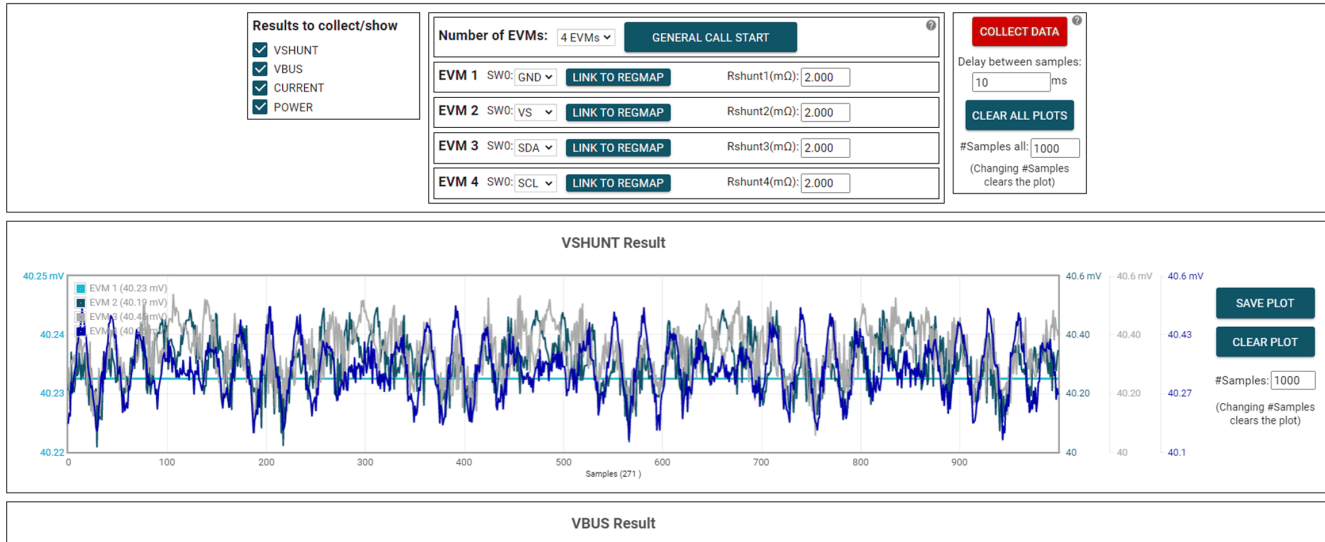

Figure 4-9. GUI Plots Page
4. Click the  (plots) icon on the left menu to go to the plots page. Under the plots page, you can view and collect results data over time. The plots page will look similar the one shown in Figure 4-9, depending on the connected device.